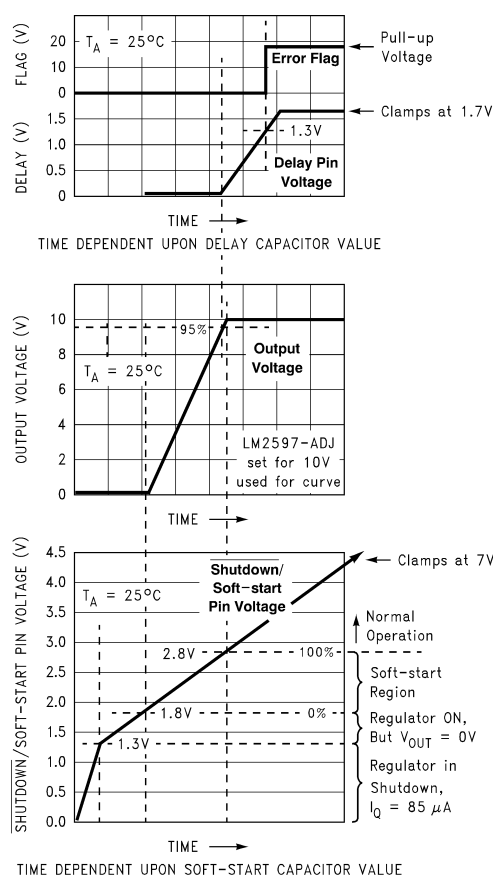
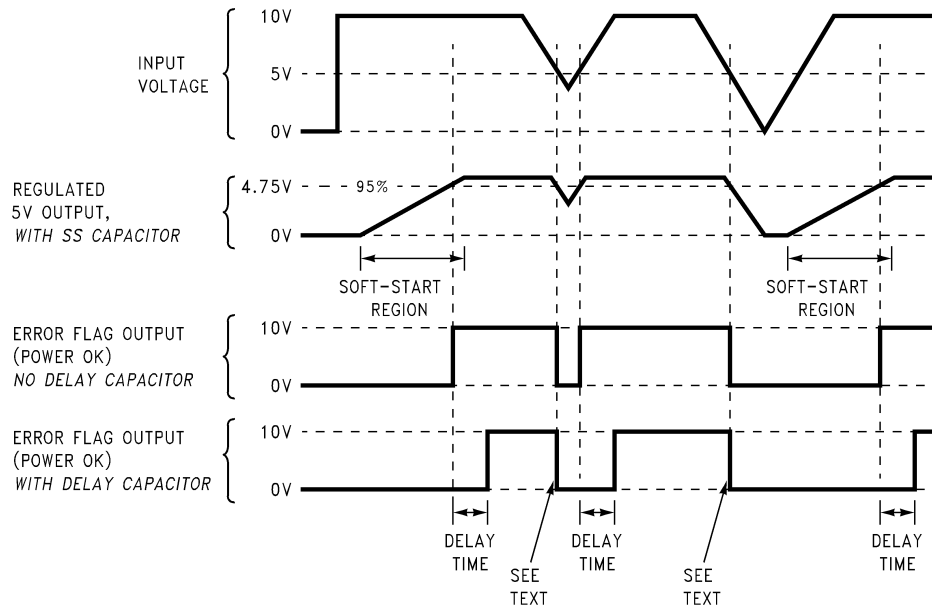

Figure 32. Soft-start, Delay, Error, Output
Figure 33. Timing Diagram for 5V Output
**CSS** —A capacitor on this pin provides the regulator with a Soft-start feature (slow start-up). When the DC input voltage is first applied to the regulator, or when the Shutdown /Soft-start pin is allowed to go high, a constant current (approximately 5 μA begins charging this capacitor). As the capacitor voltage rises, the regulator goes through four operating regions (See the bottom curve in Figure 32).
3. **Soft-start Region.** When the  $\overline{SD}$  /SS pin voltage is between 1.8V and 2.8V (@ 25°C), the regulator is in a Soft-start condition. The switch (Pin 8) duty cycle initially starts out very low, with narrow pulses and gradually get wider as the capacitor  $\overline{SD}$  /SS pin ramps up towards 2.8V. As the duty cycle increases, the output voltage also increases at a controlled ramp up. See the center curve in Figure 32. The input supply current requirement also starts out at a low level for the narrow pulses and ramp up in a controlled manner. This is a very useful feature in some switcher topologies that require large startup currents (such as the inverting configuration) which can load down the input power supply.
The lower curve shown in Figure 32 shows the Soft-start region from 0% to 100%. This is not the duty cycle percentage, but the output voltage percentage. Also, the Soft-start voltage range has a negative temperature coefficient associated with it. See the Soft-start curve in Electrical Characteristics.
**CDELAY** —Provides delay for the error flag output. See the upper curve in Figure 32, and also refer to timing diagrams in Figure 33. A capacitor on this pin provides a time delay between the time the regulated output voltage (when it is increasing in value) reaches 95% of the nominal output voltage, and the time the error flag output goes high. A 3  $\mu$ A constant current from the delay pin charges the delay capacitor resulting in a voltage ramp. When this voltage reaches a threshold of approximately 1.3V, the open collector error flag output (or power OK) goes high. This signal can be used to indicate that the regulated output has reached the correct voltage and has stabilized.